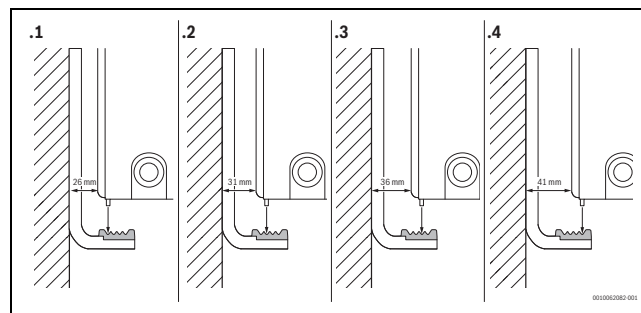

Fig. 67 Wall bracket attachment options for Type 21, 22, 33 of VC-, VCM-, A- and C-Profil/ Plan radiators
- ▶ Attach the radiator to the wall-mounted brackets. Start with the bottom (→ Fig. 67).
- ▶ The use of the fourth notch (→ Fig. 67) in combination with Requirement Class 3 – AK3 for the radiators mentioned is not recommended.